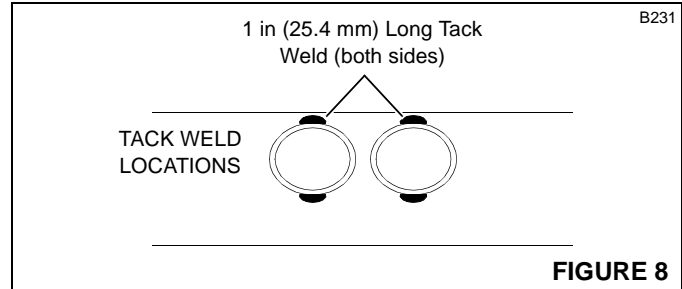

FIGURE 8
8. Tack weld the new lacing into position at both ends with a 3/32 in (2.4 mm) electrode. The tack welds should be approximately 1 in (25.4 mm) long on both sides of the lacing as shown in Figure 8.